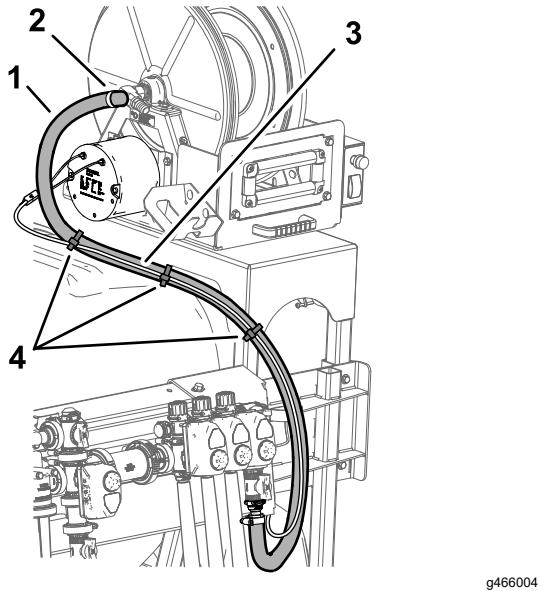

Figure 50
4. Connect the hose 180 cm (71 inches) to the barbed-hose fitting on the hose reel assembly and secure the hose to the fitting with a hose clamp as shown in Figure 50.
5. Secure the wire harness for the pivoting hose-reel kit to the supply hose for the reel using 3 cable ties (Figure 50).